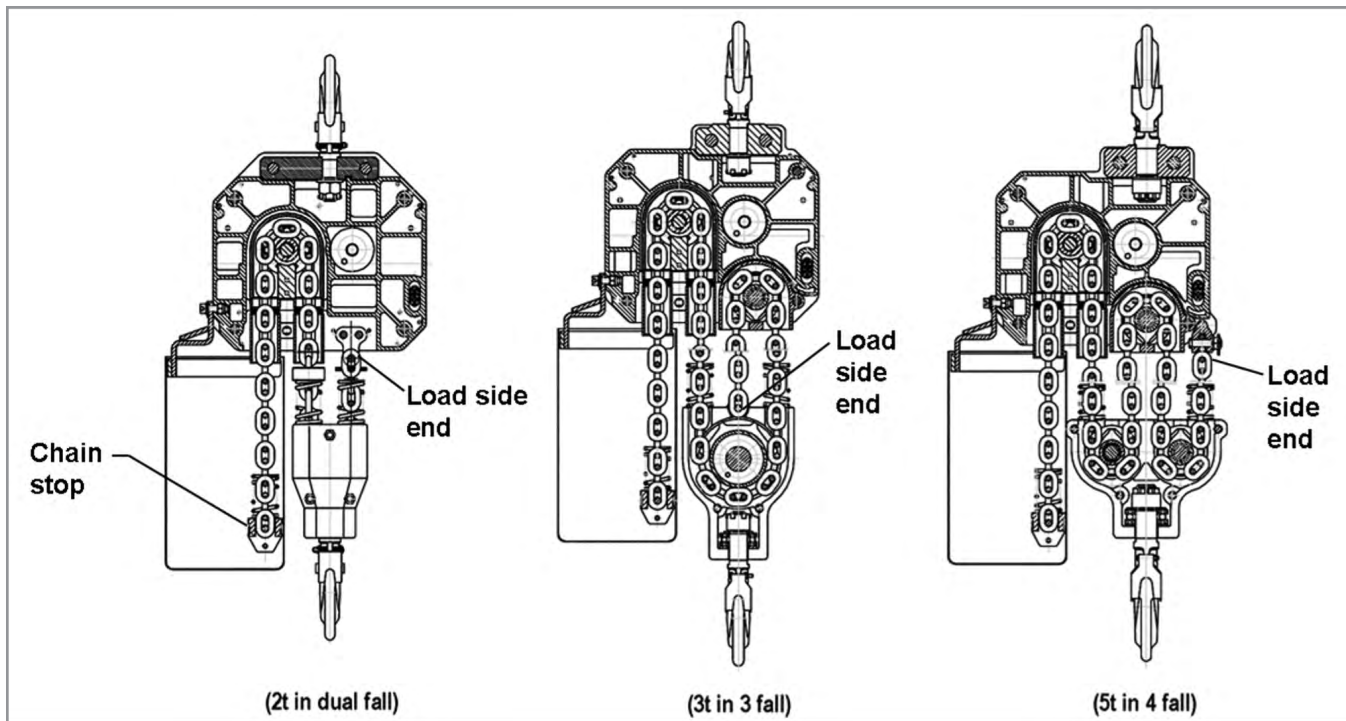

Figure 17
6. Support the load hook so that the load chain can pass through the chain sheaves smoothly. Figure 17 shows the load chain path for the various sizes of hoists.